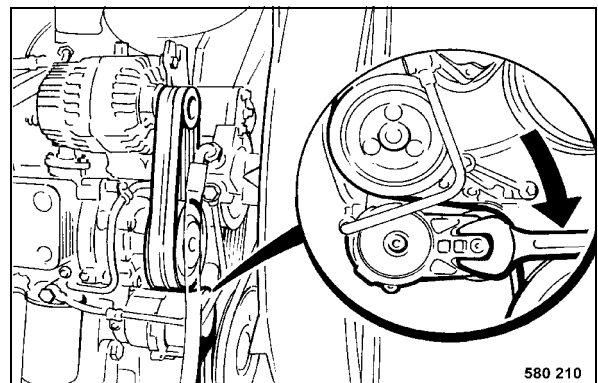

Fig. 156
- Release the idler pulley (Fig. 156) in direction of arrow until the ribbed V-belt is free.